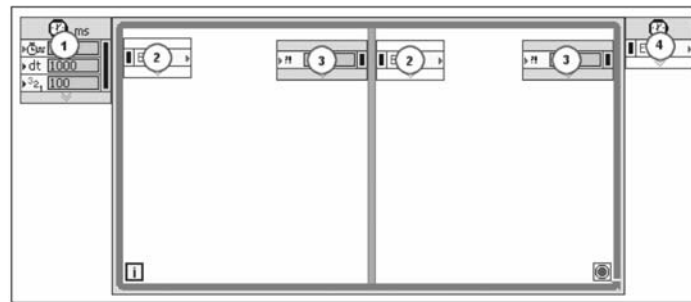

Figure 8.5 Timed Loop with frames.
Timed Loops execute below the time-critical priority of any VI but above high priority, which means that Timed Loops execute in the data flow of a block diagram ahead of any VI not configured to run at a time-critical priority. Right-click the structure border to add, delete and merge frames. The Timed Loop with frames includes (1) Input and (4) Output nodes, and (2) Left and (3) Right Data nodes for each frame as shown in Figure 8.5. By default, the nodes of the Timed Loop do not display all of the available input and output terminals. You can resize nodes or right-click a node and use the shortcut menu to display hidden terminals. You can set initial configuration options of the Timed Loop by wiring values to the inputs of the *Input* node, or you can use the *Configure Timed Loop With Frames* dialog box, available by right-clicking the *Input* node and selecting *Configure Input Node* from the shortcut menu, to enter values for the options. Refer to the *Configuring Timed Loops* topic for more information about configuring a Timed Loop with frames.